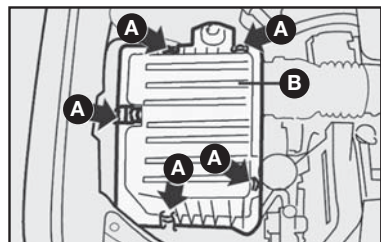

fig. 11
**SUBSTITUIÇÃO – figs. 11, 12, 13 e 14**